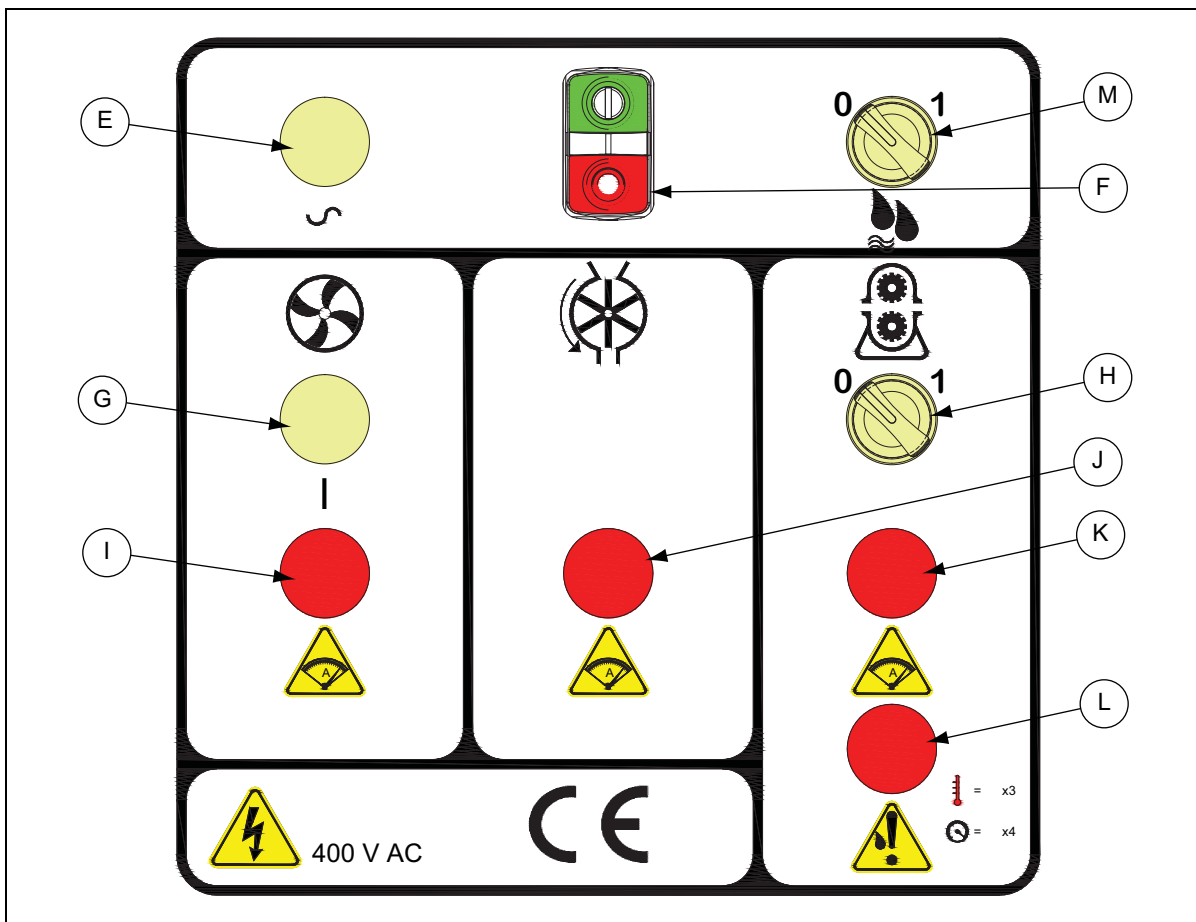

Figure 3C Control Legend
6. Turn the isolator switch (C) to ON. The power LED (E) should come ON. *(See Figure 3C on Page 38.)*
Refer to control legend. (See Figure 3C on Page 38.)